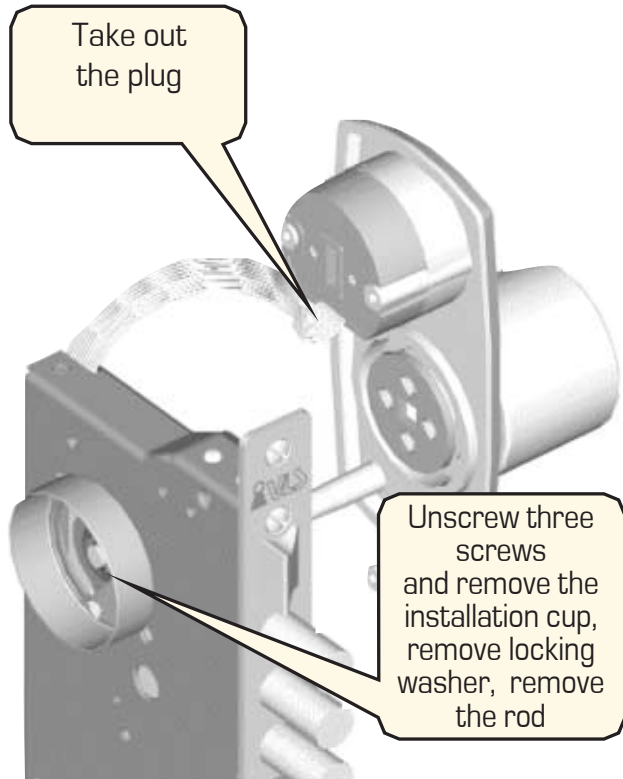

Figure 13 – Removal of outer handle with scutcheon and installation cup
**11.** Unscrew the three fixing screws that hold the cup in its place, and remove the cup (fig. 13).
**12.** Using a screwdriver or pincers, remove the locking washer from the rod (fig. 13).